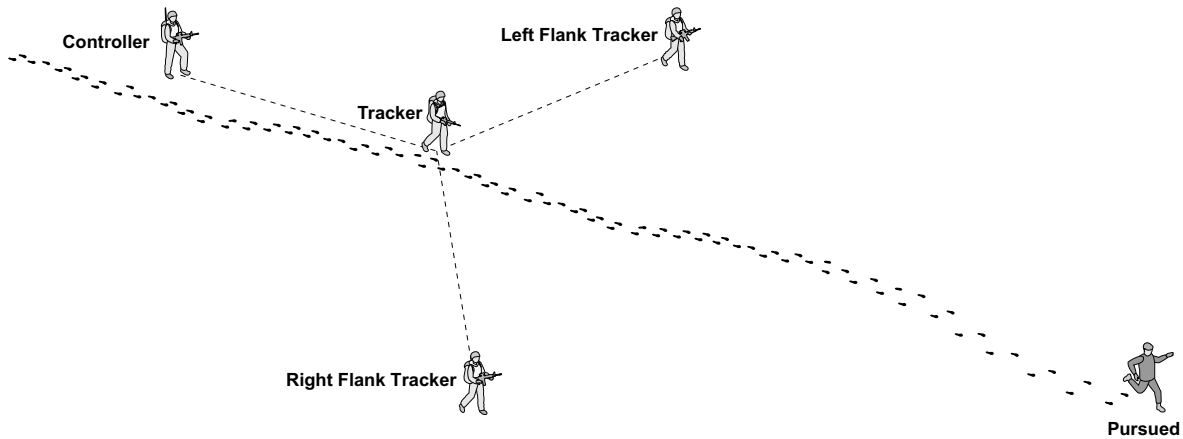

Figure 2-4. “Y” Formation.
- **“Y” Formation.** The Y formation (see Figure 2-4) is the basis for all other formations and immediate action drills. It is best used in open country, where the distance between trackers depends on visual contact with the controller and varies according to terrain and vegetation conditions.